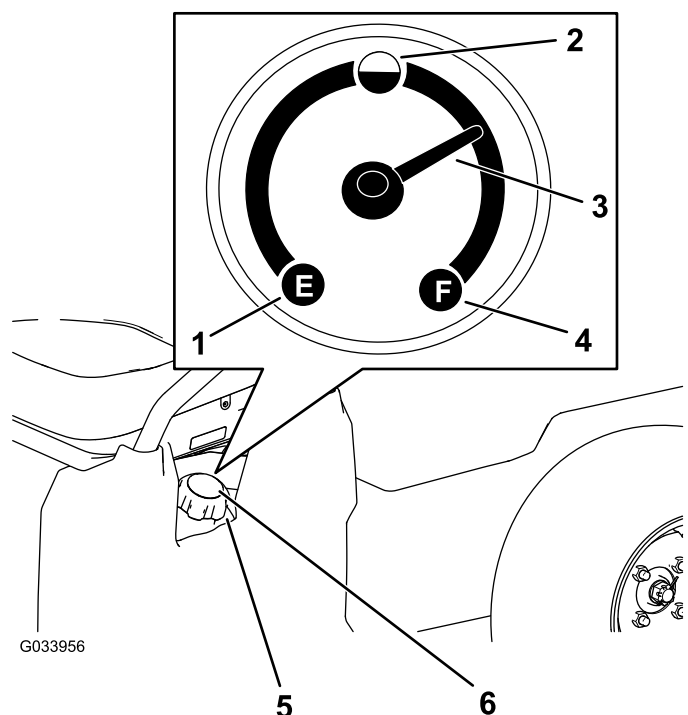

Figure 13
5. Clean the area around the fuel-tank cap (Figure 13).